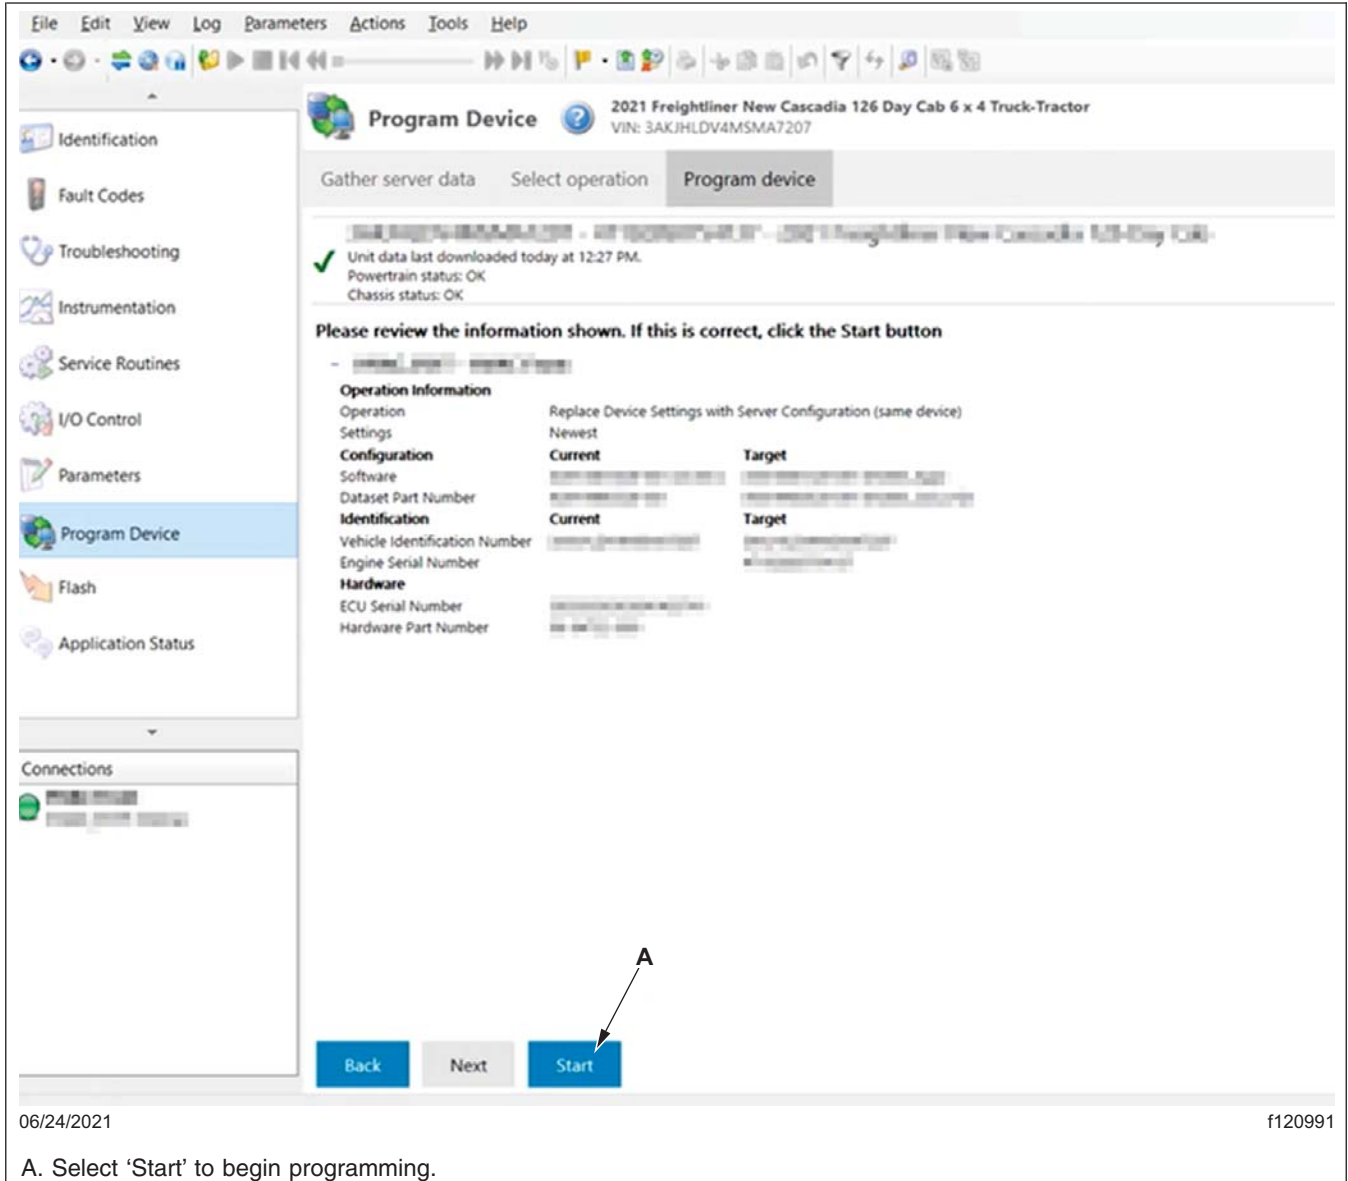

Fig. 6, Starting the XMC Programming
10. Verify the VIN, hardware and software information, then select 'Start' to program. See Fig. 6.